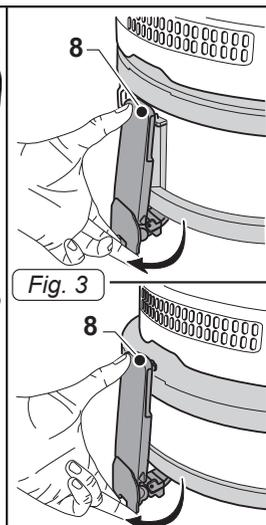

Fig. 3
- Release the levers (8 Fig. 3) and remove the cover (9 Fig. 4) complete with the motor unit and floater-holder (46 Fig. 4).
- Re-mount the floater-holder (46 Fig. 35), with the "**FRONT**" arrow aligned with the front part of the machine (58 Fig. 35); also re-mount the cover (9 Fig. 35) and block it via the levers (8 Fig.3).